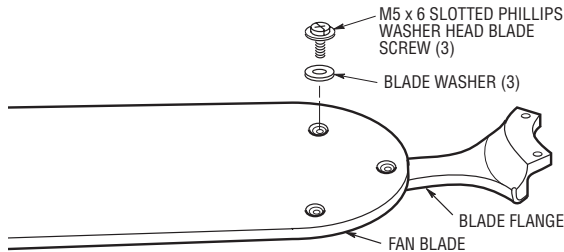

Figure 5
- 7. Mount blade flanges to fan blades using three M5 x 6 slotted Phillips washer head blade screws and three blade washers (Figure 5).